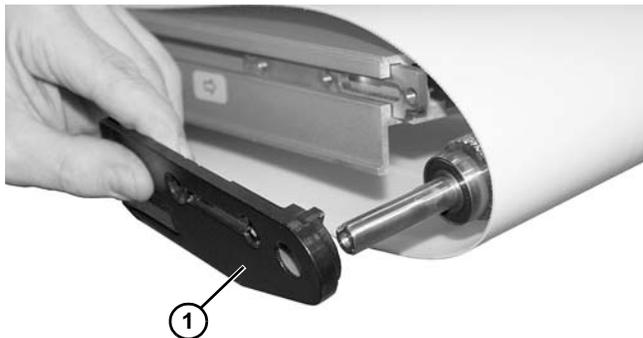

Figure 93
4. Remove the head plate (**Figure 93, item 1**) from the conveyor frame, holding spindle in place.